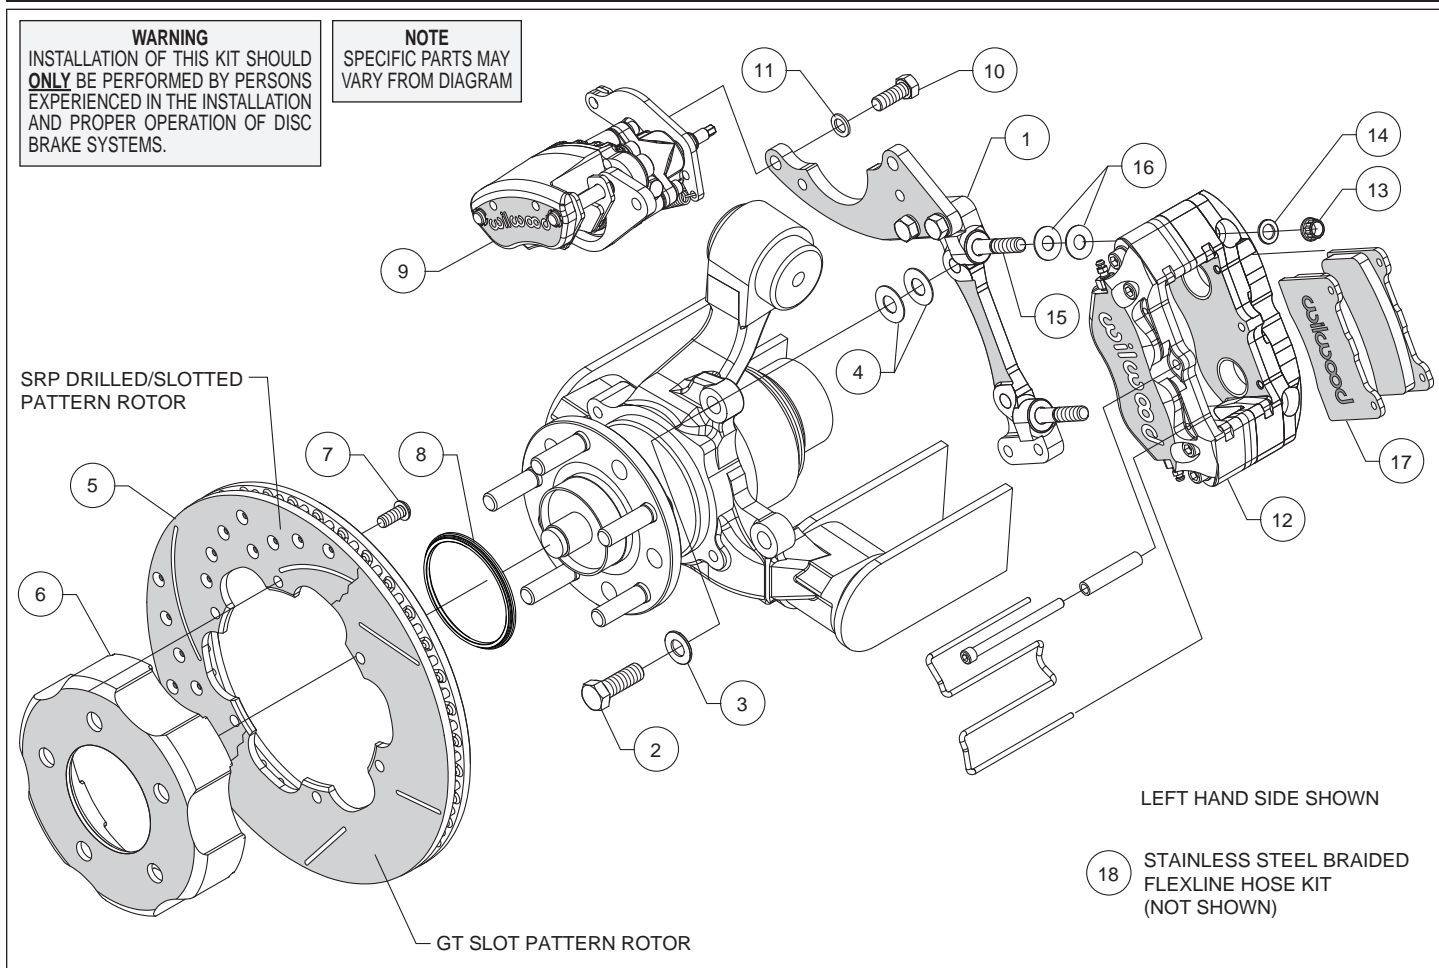

Figure 1. Typical Installation Configuration
**Assembly Instructions** (numbers in parenthesis refer to the parts list and Figure 1 on the preceding pages):
- The caliper mount bracket (1) should initially be installed with clean, dry threads on the mounting bolts. Orient the bracket as shown in Figure 1, and Photo 1, and install using bolts (2) and washers (3). Initially place two .033" thick shims (4) on each bolt between the bracket and upright, Figure 1. Temporarily tighten the mounting bolts. **NOTE:** *The bracket must fit squarely against the mount bosses on the upright.* Inspect for interference from casting irregularities, machining ridges, burrs, etc. Later, after the caliper alignment has been checked, the mount bolts will be secured using red *Loctite*® 271.
- Orient the rotor (5) and the hat (6) as shown in Figure 1 and Photo 2. Attach rotor to hat using bolts (7). Using an alternating sequence, apply red *Loctite*® 271 to the threads, and torque to 25 ft-lbs.
- Slide the rotor registration adapter (8) onto the axle register on the hub assembly with the smaller O.D. facing outward, Photo 3. Slide the hat/rotor assembly (5/6) onto the axle hub. **NOTE:** *The hat must fit flush against the axle hub flange or excessive rotor run out may result.* Install three lug nuts (finger tight) to keep the hat/rotor assembly in place while continuing with the installation, Photo 4.
- Lubricate the caliper mounting studs (15) with lightweight oil. Initially place two .035" thick shims (16) on each stud as shown in Figure 1 and Photo 5. Mount the caliper (12) onto the bracket (1) using lock nuts (13) and washers (14), Figure 1. Temporarily tighten the lock nuts and view the rotor through the top opening of the caliper. The rotor should be centered in the caliper, Photo 6. If not, adjust by adding or subtracting shims (16) between the caliper and the bracket. Always use the same amount of shims on each of the two mounting bolts. Once the caliper alignment is correct, remove the bracket mounting bolts one at a time, apply red *Loctite*® 271 to the threads, and torque to 60 ft-lb.
- Insert the brake pads (17) into the caliper with the friction material facing the rotor (5), as shown in Figure 1 and Photo 7. Check that the top of the brake pad is flush with the outside diameter of the rotor, Photo 8. If not, adjust by adding or subtracting shims (16) between the caliper and the bracket. After the caliper pad height is set, torque the caliper lock nuts (13) to 30 ft-lb. Secure the pads in place using the pad clip retainer as well as the center bridge pad retainer tube, bolt, and locknut, Photo 9. The locknut should be snug without play in the bolt or tube. Be cautious not to over tighten.
- Mount the parking brake caliper (9) onto the caliper mounting bracket (1) using bolts (10) and washers (11), as shown in Figure 1 and Photo 10. Apply red *Loctite*® 271 to bolt threads, and torque to 30 ft-lb.